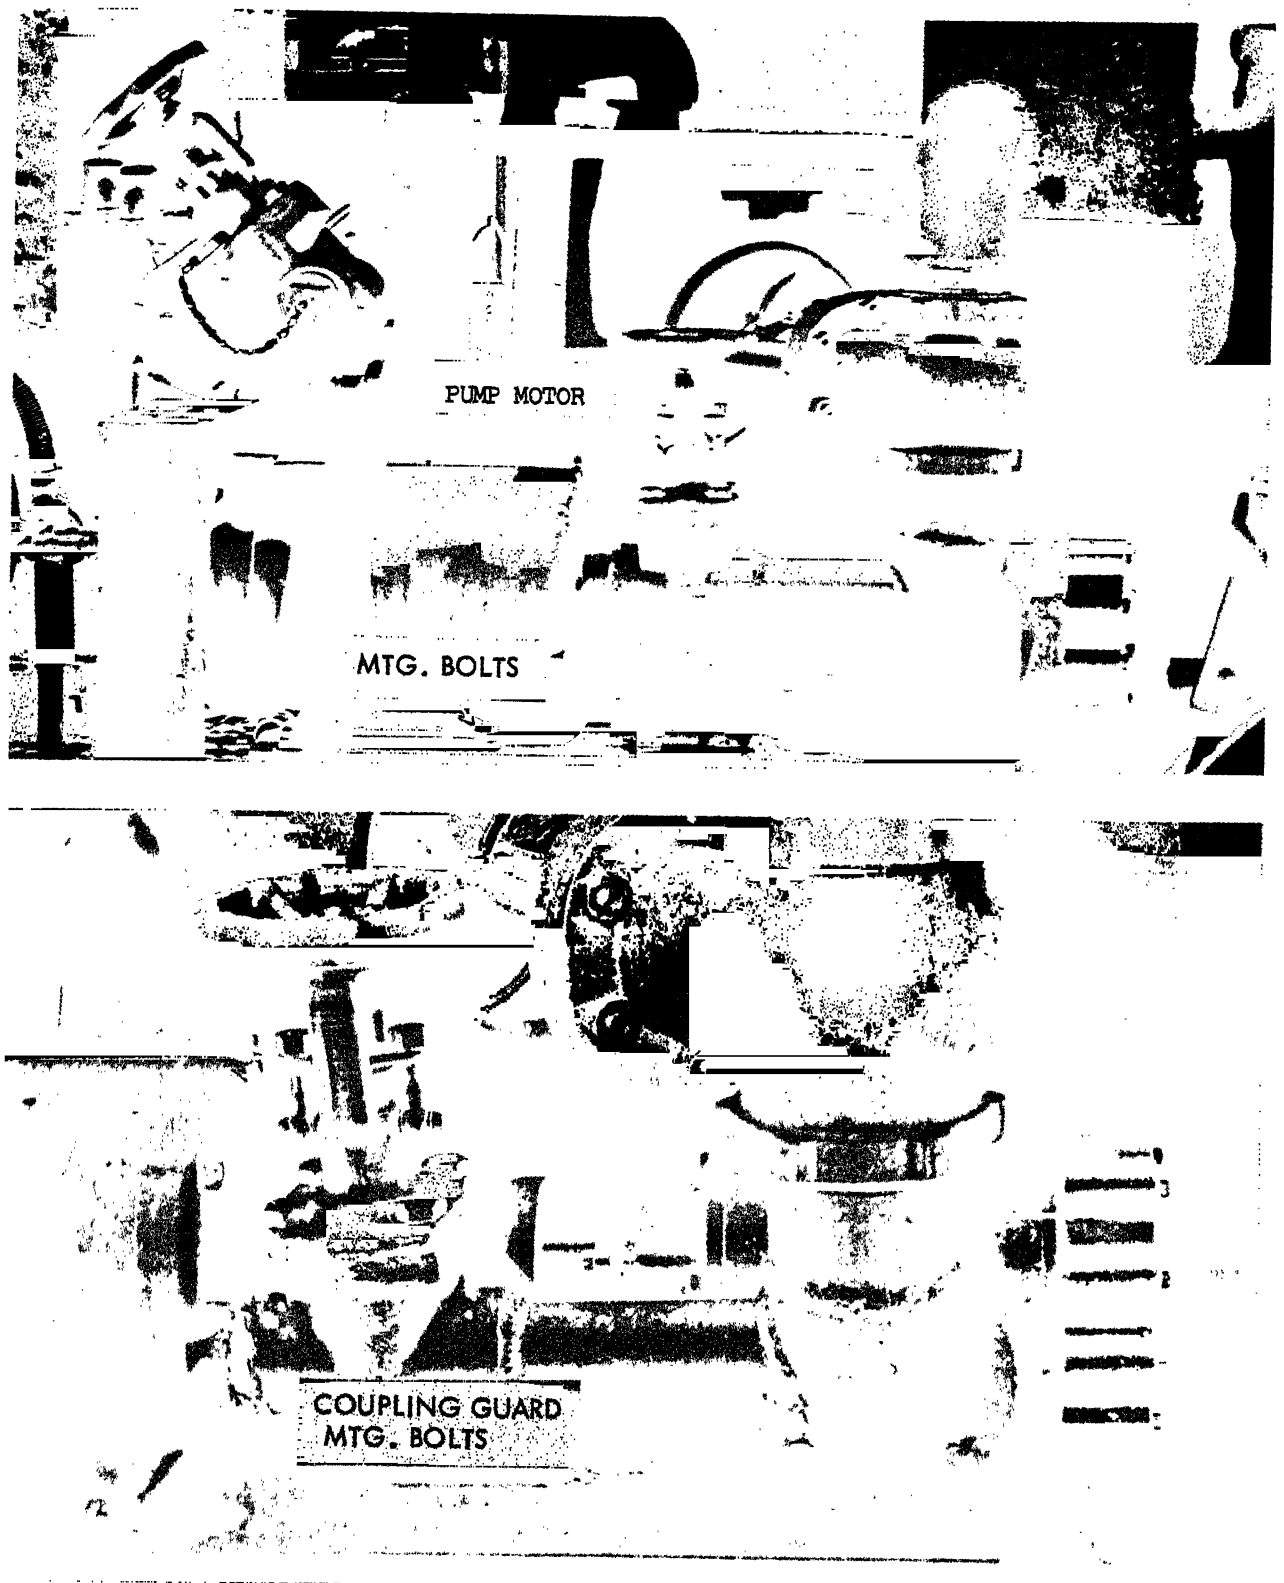

FIGURE 34. REMOVAL AND SERVICE CIRCULATING PUMP AND MOTOR.
a. Removal. Refer to Fig. 34 and remove the circulating pump motor.
c. Installation. Refer to Fig. 34 and install the circulating pump motor.
d. Alignment. Refer to Fig. 34 and 34A. to align the circulating pump, circulating pump motor, and pump drive coupling.
2. Refer to Fig. 34 and inspect the pump drive coupling and shaft for proper rotation. It should be clockwise, viewed from coupling end.
b. Removal. Refer to Fig. 34 and 34A. to remove the circulating pump and pump drive coupling.
- d. Installation. Refer to Fig. 34 and install the circulating pump and pump drive coupling.
- e. Alignment. Refer to Fig. 34 and align the circulating pump motor and pump drive coupling, and circulating pump.
- 3. Refer to Fig. 34 and remove the pump base plate.
- 1. Refer to Fig. 34 and install the pump base plate.